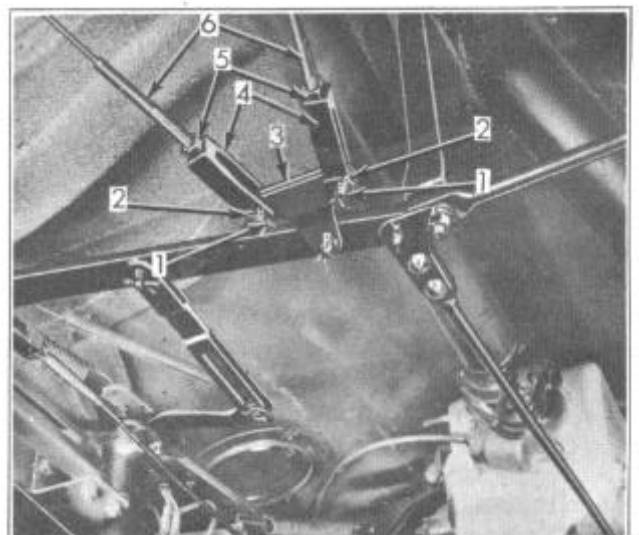

FIGURE 5
6. Remove cotterpins (1) and clevis pins (2) that hold brake cable clevis to equalizing bar (3).
7. Unscrew brake cable clevis (4) from brake cable (6) remove locknuts (5) from brake cables as shown in Figure 5.